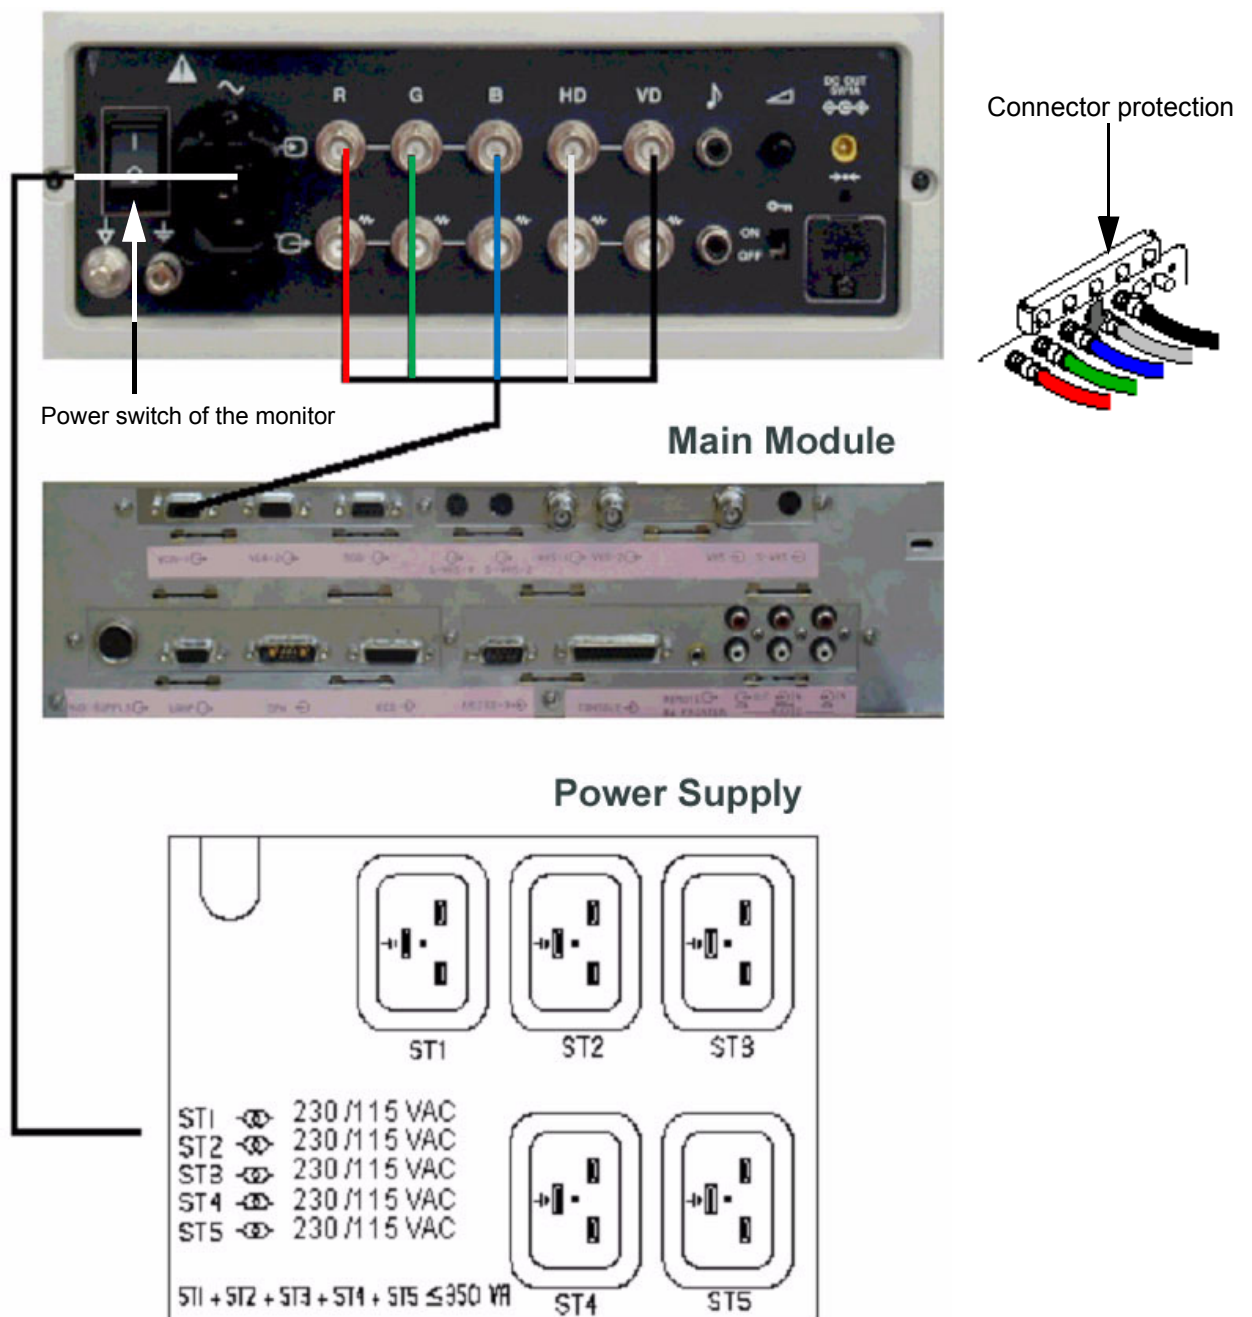

Figure 3-8 Monitor Connection Scheme
- 1.) Connect all the Monitor cables as shown in Figure 3-8.